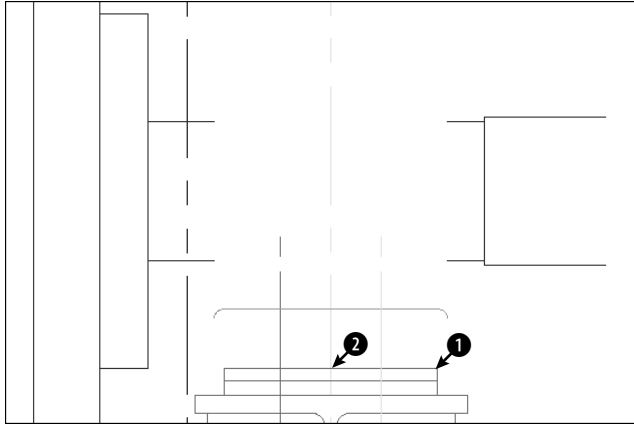

Figure 16-2: A small section of a drive block.
2. Save the file as `ab16-01.dwg` in your `AutoCAD Bible` folder. It shows a small section of a drive block, as shown in Figure 16-2. In this exercise, you complete part of the drawing. ORTHO and OSNAP should be on. Set running object snaps to endpoint, midpoint, and intersection. Layer 3 should be current.
Base point: *Choose 1 in Figure 16-2.*
- Base point: *Choose point 2 in Figure 16-2.*